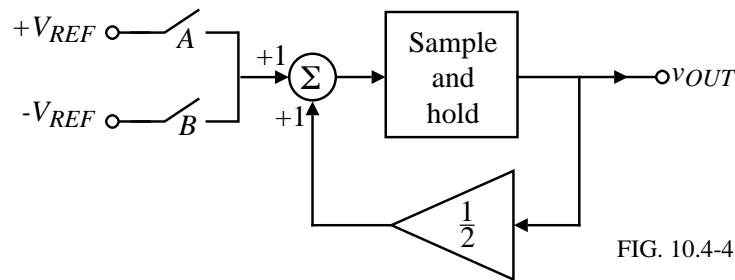

FIG. 10.4-4
- 1.) The conversion starts by zeroing the output (not shown on Fig. 10.4-4).